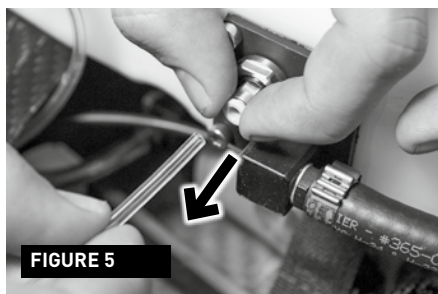

FIGURE 5
5) When a mode has been selected, press the green button START. The charger will beep and the battery charging will start. The charging progress is displayed on the screen – FIGURE 5.
5) Disconnect the hose on the other side of the tank – FIGURE 5 leading to the suction hose.
Starting in deep water happens similar to start from the bank. If after falling down the rider manages to insert the engine shut-off key in the engine shut-off switch within 5 minutes, the engine will start in 3 seconds (second stage of starting). **The rider does not get on the board until the engine is running.** After the engine starts, it is necessary to use the engine power and pull yourself back onto the JetSurf™ - FIGURE 5.